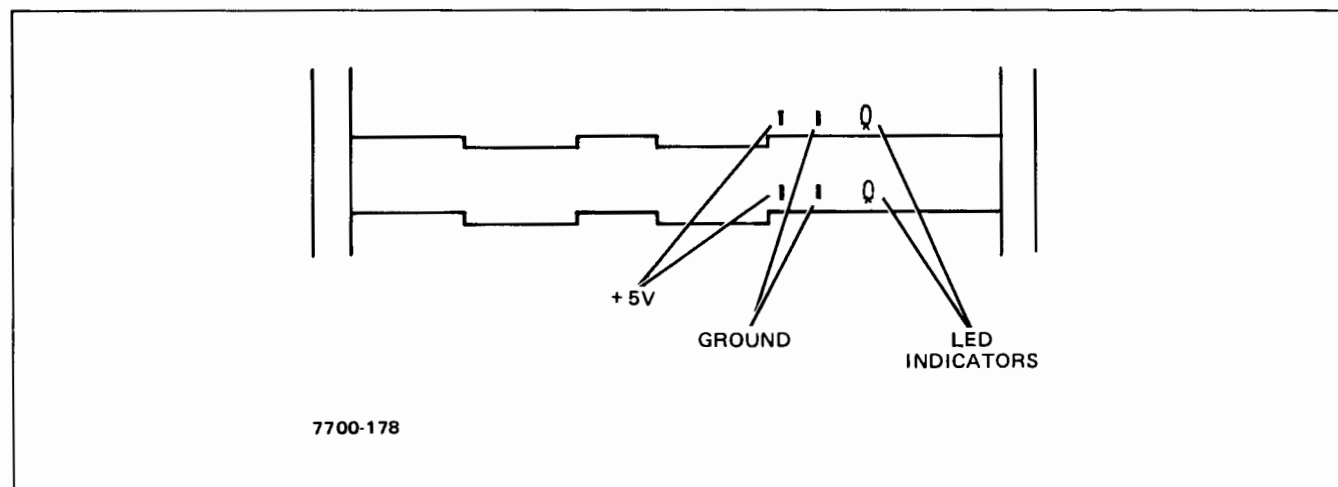

Figure 1-9. Floating Point PCA Voltage Test Points
- e. On the 2111F, +5V can be measured between the +5V and ground test pins on the front of the floating point PCA's (figure 1-9), the light emitting diodes
- (1) On the rear panel of the FPP, set the ~LINE switch to OFF.
- (2) Plug the ac power cord into a power outlet and set the ~LINE switch to ON.
- (3) Remove the front panel of the FPP by grasping the panel handle and pulling.
- (4) Connect the ground lead of the DVM to the ground test point on the front of a floating point PCA (figure 1-9) and the positive lead to the +5V test point. (The light-emitting diodes on the PCA's should be lit if the +5V voltage is approximately +5 volts.)
- (5) Verify that the DVM indicates +4.75 to +5.25 volts and that both LED's are lit. If the voltage is not within tolerance or if either LED is not lit, notify your nearest Hewlett-Packard Sales and Service Office. (Refer to the office address list at the rear of this manual.)
- (6) Repeat steps 4 and 5, connecting the DVM to the other floating point PCA.
- c. Connect the DVM between the GND (ground) and the +5V test points on the front of the floating point PCA (figure 1-9).